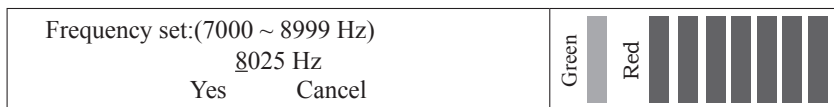

Fig 16
(2) Manual setting: see Fig. 16.